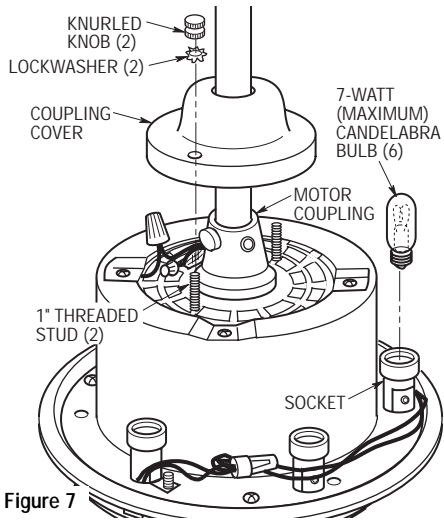

Figure 7
- 11. Screw two 1" threaded studs (supplied) into the motor (Figure 7). Leave approximately 7/8" of the stud extending above the motor. Coil the wires and wire connectors around the motor coupling then slide the coupling cover over the downrod and rotate the cover until the threaded studs protrude. Install two lockwashers and knurled knobs (supplied) to secure the cover to the motor. All wires and wire connectors must be enclosed under the coupling cover.
- 12. Install six 7-watt (maximum) candelabra bulbs (not supplied) in the sockets on the motor housing (Figure 7).